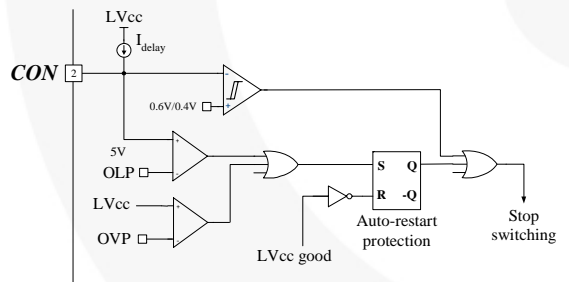

Figure 21. Internal Block of Control Pin
4. Control Pin: The FSFR-series has a control pin that can be used for protection, cycle skipping, and remote on/off. Figure 21 shows the internal block diagram for control pin.